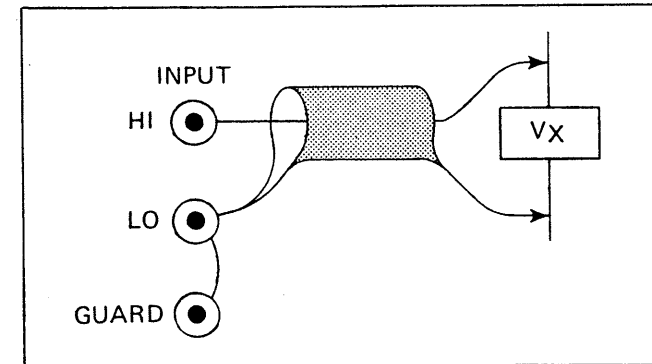
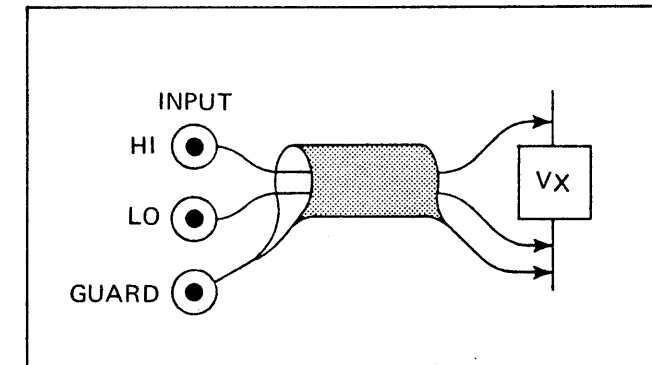

Figure 3.3 - DC, AC Measurement Connections Using Coaxial Cable
Figure 3.4 - DC, AC Measurement Connection Using Two Conductor Shielded Cable
3.4.3.3 Connect the DC voltage to the INPUT HI-LO terminals, refer to Figure 3.3 and Figure 3.4, and read the value from the display and range annunciators.
3.4.4.4 Connect the AC voltage to the INPUT HI-LO terminals, refer to Figure 3.3 and Figure 3.4, and read the value from the display and range annunciators.